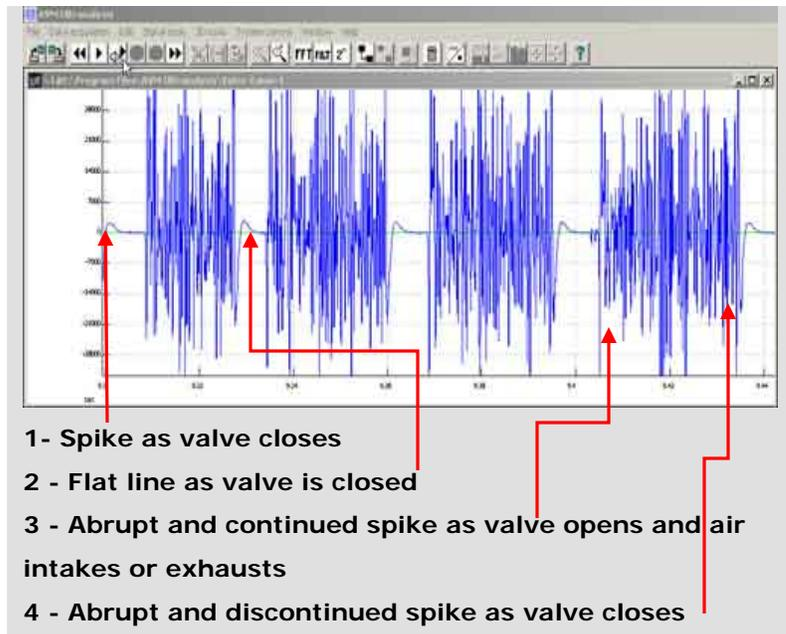

Figure 12 - Typical Compressor Valve with Time Waveform Shows Open and Close
By visualizing the recorded sound file of a compressor valve in the time domain a lot can be learned about the condition of the valves and their components. Valves are opened and closed by a spring mechanism allowing reciprocating compressors to intake and exhaust. There are three distinct events (Open, Intake or Exhaust, and Closed) occurring all at split-second timing way to fast for our ears to process. By viewing the wave file in real time we can stretch it out to visualize each individual event. In Figure 12 the waveform shown is four cycles in less than 1/10th of a second. It clearly shows the valve closed (2 - flat line at zero), open and intake of air (3), then a small spike as the valve slams shut (1 & 4), and flat lined again to indicate a tightly sealed valve (2). There are a few things to look for in this picture. First, we can trend the small spike as the valve spring pulls closed (1 & 4). As the spring ages and wears this spike becomes smaller and smaller. As a result some noise may appear where the flat line (2) was as the valve